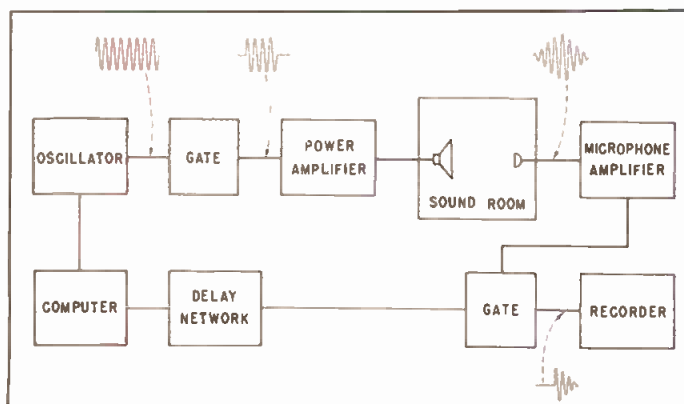

Figure 5. Block diagram of Kidd's transient recorder.
At about the same time, working at RCA's Camden lab, Corrington (12) showed the connection between various modes of cone resonance, tone-burst decay patterns, and corresponding fluctuations in the amplitude-frequency response characteristics. As a result of Corrington's work, Kidd (13) designed an electronic device to interrupt the test tone at intervals corresponding to a given number of cycles, and to record, as a function of frequency, the sound output of the loudspeaker while the tone was shut off. FIGURE 5 is the block diagram of the tone burst generator and transient recorder as described in Kidd's paper and used by Corrington and Kidd.